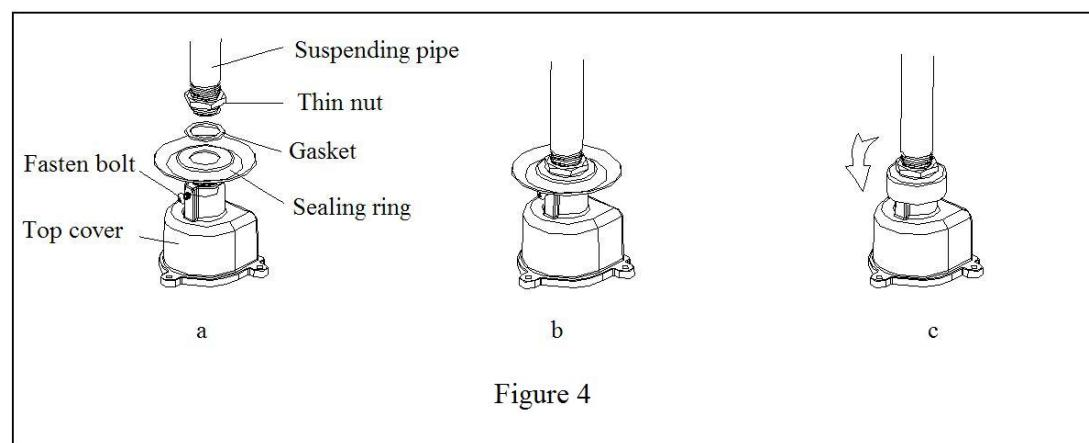

Figure 4
6. Model A is provided with water-resistant sealing ring assembly, see Figure 4 for correct installation, the procedures as followed:
- a) Rip the pipe into the tiny nut, gasket and sealing ring successively(see Figure 4 a);
- b) Screw the pipe into the top cover then screw down the tiny nut to compress the gasket and sealing ring tightly(see Figure 4 b);
- d) Locate the sealing ring as the arrow shows in Figure 4.